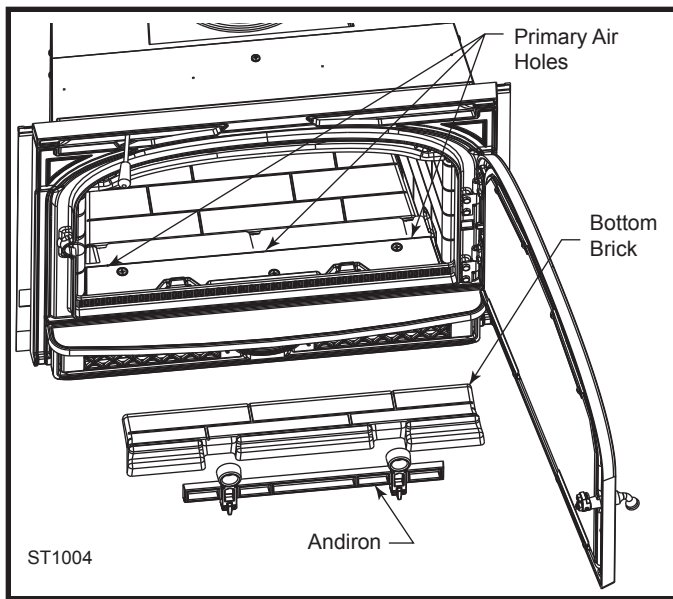

Fig. 11 Keep primary air holes free of ash for proper performance.
Check the ash level, and remove excess ash. Three (3) primary air holes located under the front brick provide air to the coal bed. (Fig. 11) These holes should be cleared of ash for proper performance.